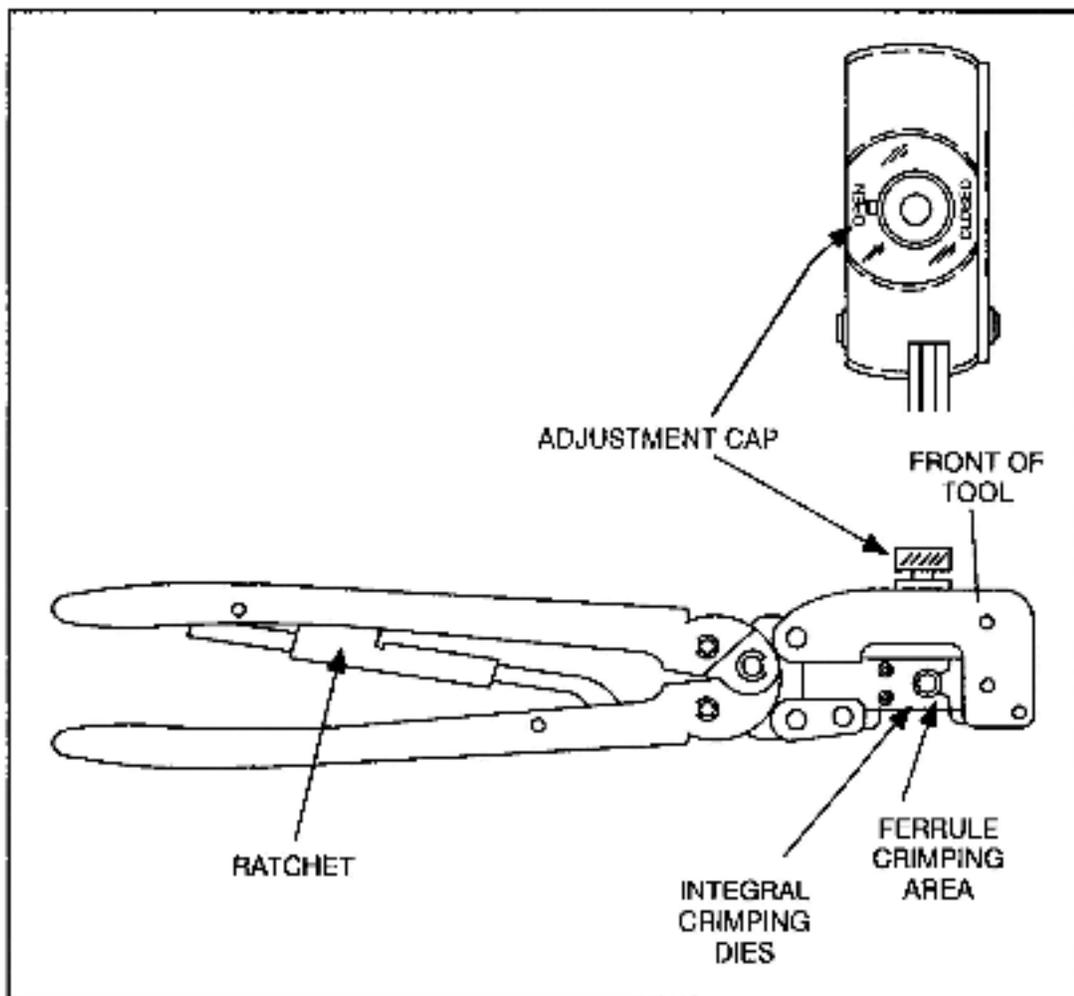

Figure 3.18 - Turn Adjustment Cap to OPEN Position
- Step 3. On the crimping tool shown in figure 3.18, rotate locator/stop by turning the adjustment cap to the OPEN position.